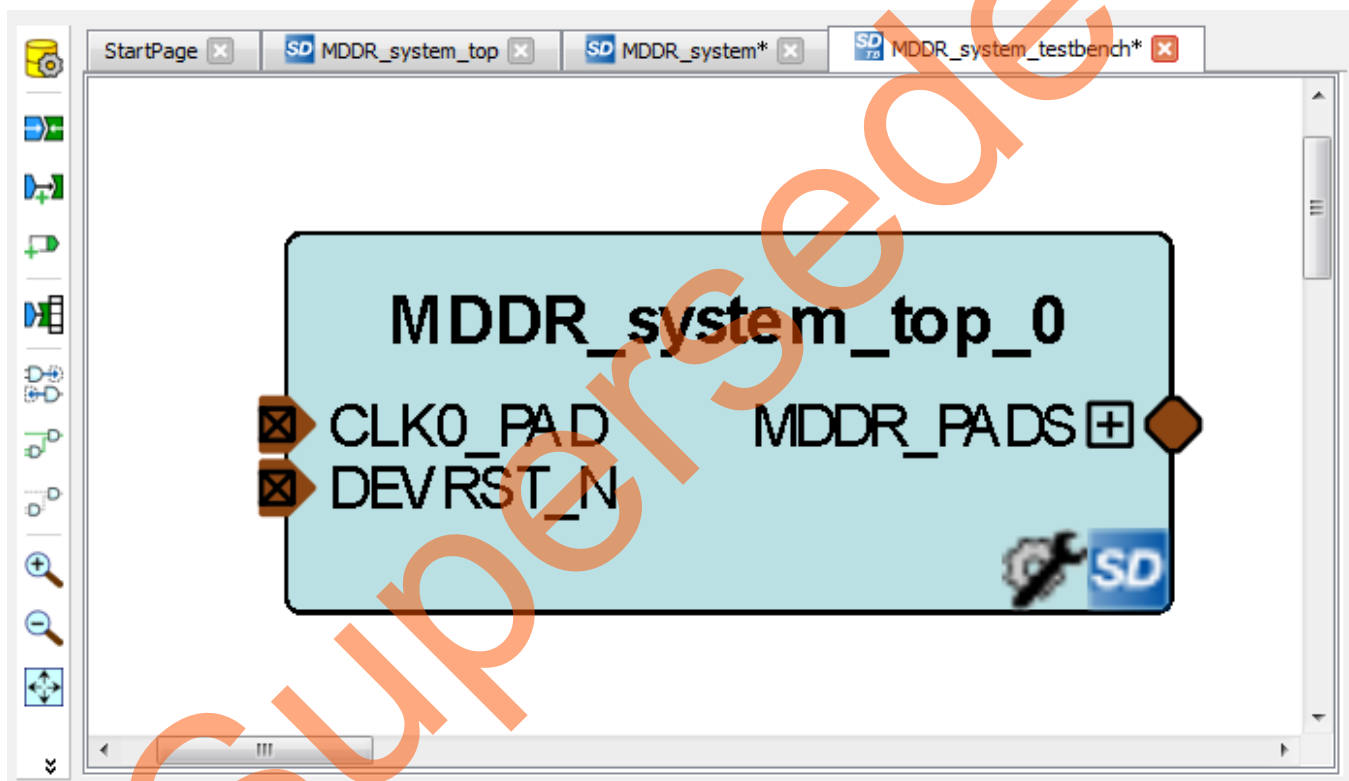

Figure 16. SmartDesign Testbench Canvas
5. The SmartDesign canvas will open with the **MDDR_system_top_0** component instantiated, as shown in Figure 16.